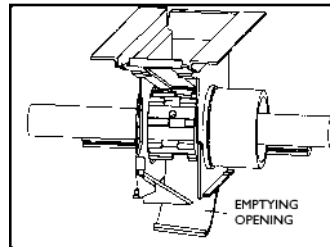

Fig. 6
- Empty the seeds in the hopper onto the tray, fully opening the shut-off gates (Fig. 6).